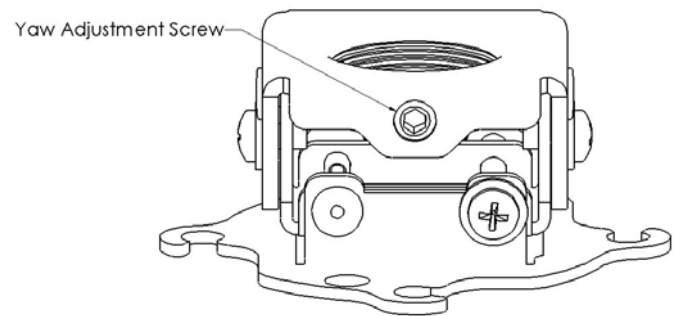

Figure 15. Yaw Adjustment Screw
1. Loosen the set screw (see Figure 15).